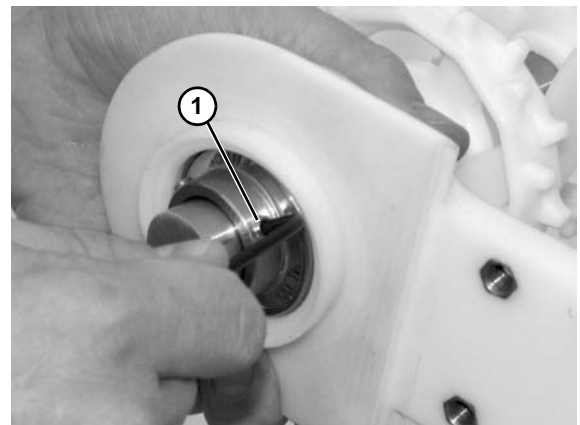

Figure 53
6. Loosen set screws (**Figure 53, item 1**).